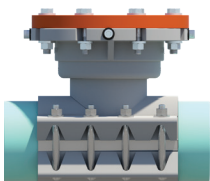
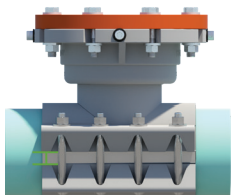

Figure 3
Figure 4
**7)** Install the bottom half of the line stop fitting over the tapered ends of the mat gasket ensuring they are flat and smooth against the pipe surface. Visually inspect gasket to ensure tapered ends are not folded or rolled under themselves. Install stainless steel bolts, washers, and nuts (see Figure 3). Finger tighten, ensuring gaps between top half and bottom half of the line stop fitting are the same front-to-back and side-to-side – within 1/8" (see Figure 4). **NOTE:** It is acceptable to invert the middle two bolts on each side of the 4" line stop fitting to utilize a socket wrench for installation.